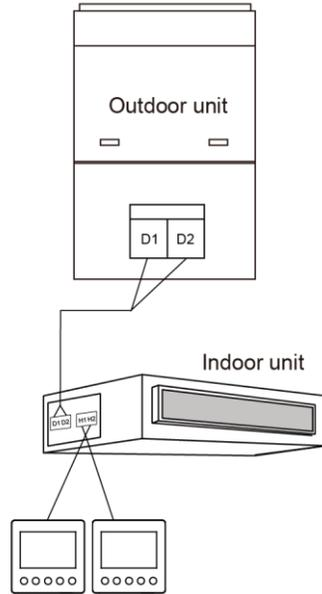

Fig. 3.5 Two wired controllers control one indoor unit
- (1) When one wired controller controls multiple indoor units simultaneously, the wired controller can connect to any one indoor unit, but the connected ones must be units of the same series. The total quantity of indoor unit controlled by wired controller can't exceed 16 sets, and the connected indoor unit must be within the same network. The number of indoor units in group control must be set. Please refer to section 3.2.2 Parameter Setting for the setting method.
- (2) When two wired controllers control one indoor unit, the addresses of those two wired controllers should be different. One should be master controller and the other should be slave controller. Please refer to section 3.2.2 Parameter Setting for the setting method.
- (3) When two wired controllers control multiple indoor units simultaneously, they can connect to any one indoor unit, but the connected ones must be units of the same series. One should be master controller and the other should be slave controller. Please refer to 3.2.2 Parameter Setting for the setting method of master and slave wired controllers. The total quantity of units controlled by wired controller can't exceed 16 sets, and the connected indoor units must be within the same network. The number of units in group control must be set. Please refer to section 3.2.2 Parameter Setting for the setting method.
- (4) When one (or two) wired controller(s) control (s) multiple indoor units at the same time, the controlled units should have the same setting.
- (5) Network connection of wired controller and indoor units must be according to one of the four wiring methods as shown in fig 3.4-3.7. As for the connection method shown in fig 3.5 and 3.7, there should be only one master wired controller (address is 01) and one slave wired controller (address 02). The quantity of wired controller can't exceed two.